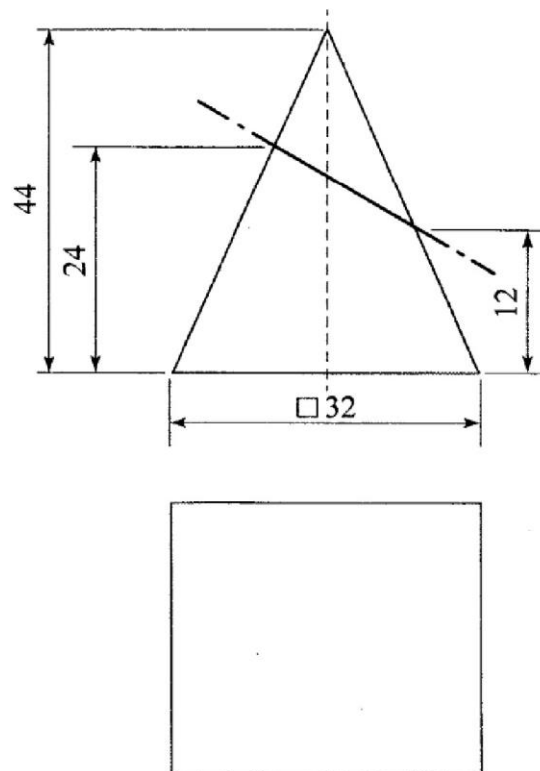

Figure 4
8. **Figure 4** shows the front elevation and incomplete plan of a truncated square-based pyramid. (5 marks)